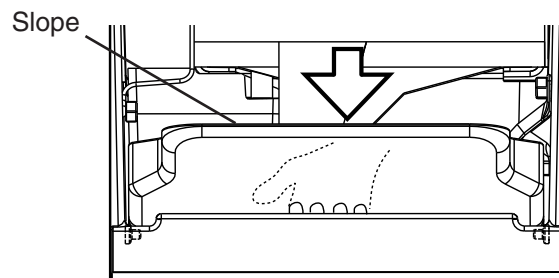

Fig. 39
- 17) Replace the slope in its correct position. See Fig. 39.